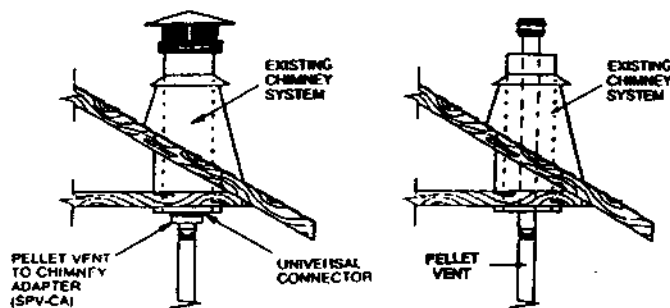

Figure 5
C. VERTICALLY INTO EXISTING CHIMNEY SYSTEM (see Figure 5)